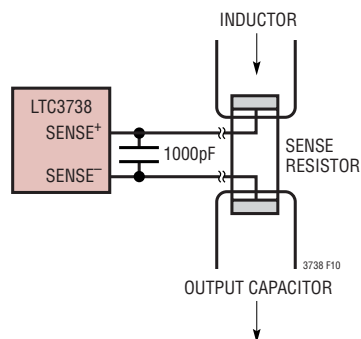

Figure 10. Kelvin Sensing RSENSE
3) Are the  $SENSE^-$  and  $SENSE^+$  printed circuit traces for each channel routed together with minimum PC trace spacing? The filter capacitors between  $SENSE^+$  and  $SENSE^-$  for each channel should be as close as possible to the pins of the IC. Connect the  $SENSE^-$  and  $SENSE^+$  pins to the pads of the sense resistor as illustrated in Figure 10.